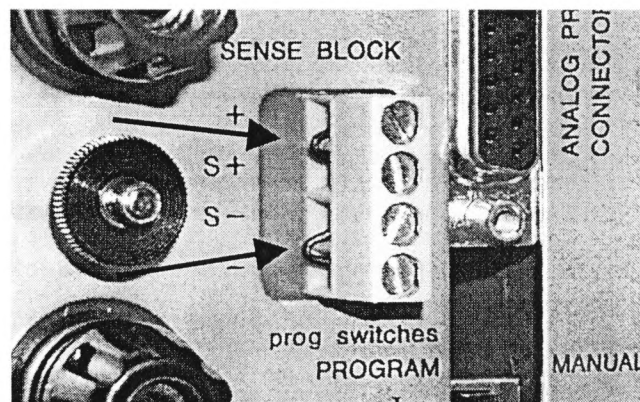

fig. 3 - 20 for normal operation links should be connected between S+ and + and between S- and -
- Check connections on **SENSE BLOCK** (on rear panel), For normal operation there should be a link between + and S+ and between - and S-. See also fig. 3 - 20. When remote sensing is used, check the wires of the sensing.